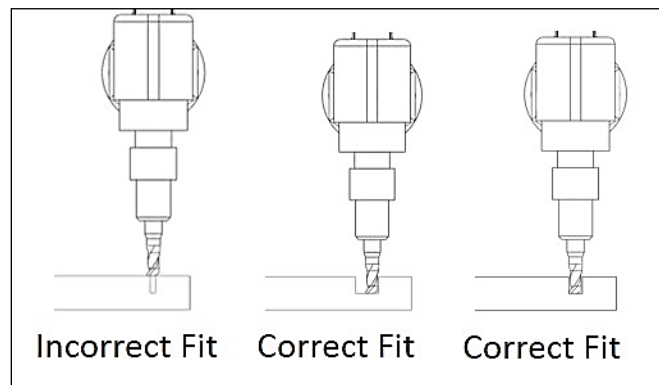

Figure 2. Determining Proper GFR-Bit Fit
- 3.1.2. Ensure the selected GFR-Bit diameter is a narrower than the gap from which filler is being removed. See **Figure 2**.